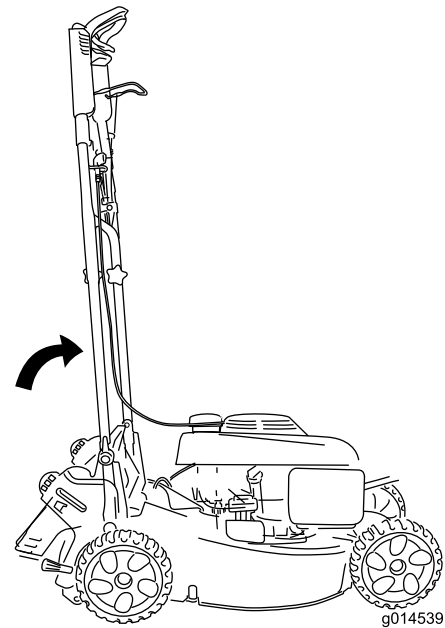

Figure 30
- To store your machine in the smallest amount of floor space, set the handle in the vertical position (Figure 30) and secure the handle locks.